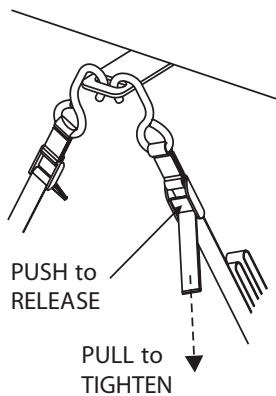

Figure 3-4
2. Pull the loose end of each restraint tight. To release, simply press the release tab and remove the hooks. **See Figure 3-4**